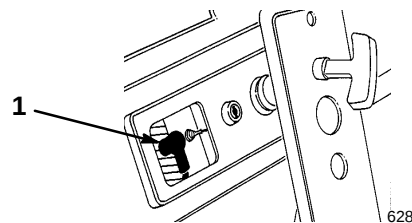

Figure 20
3. Pull the wire off the spark plug and remove the spark plug (Fig. 20).